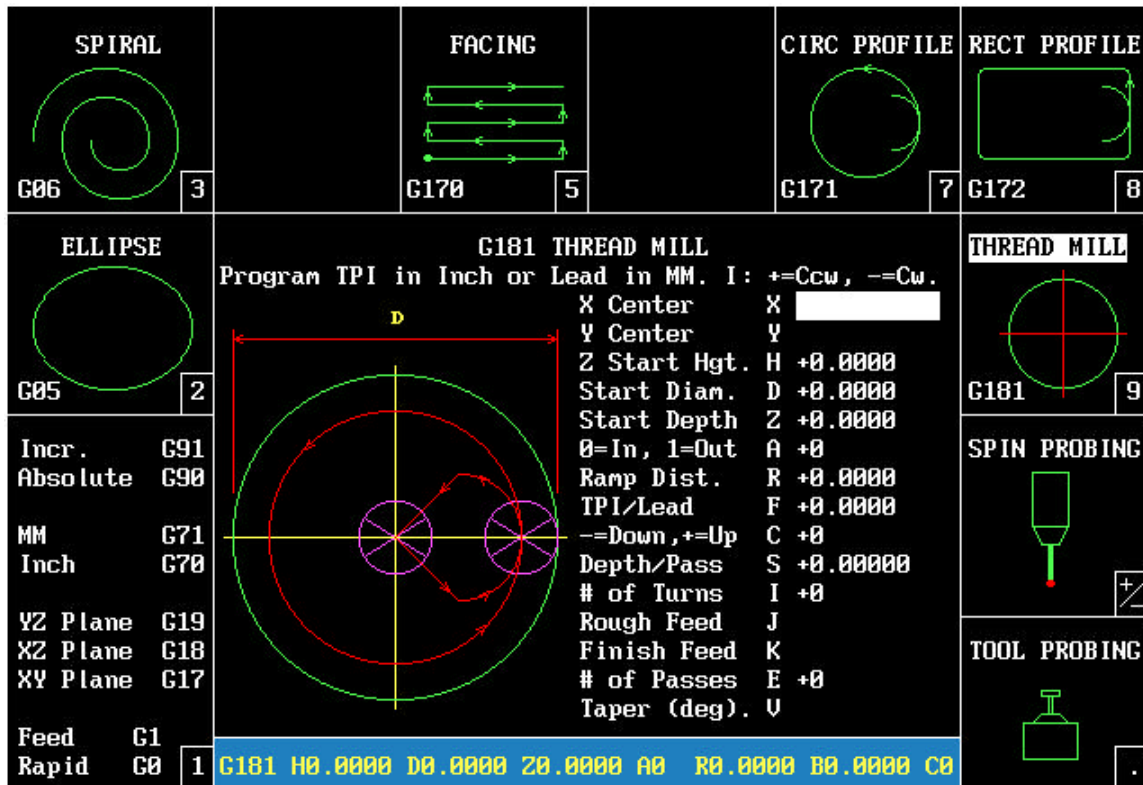

Figure 5-20, Thread Mill Pop-up Menu
1. In Edit mode, press **Thread Mill (F9)** and to display the G181 Thread Mill pop-up menu (refer to **Figure 5-20**).
When cutting a thread, the tool ramps into the cut as illustrated in **Figure 5-20**.